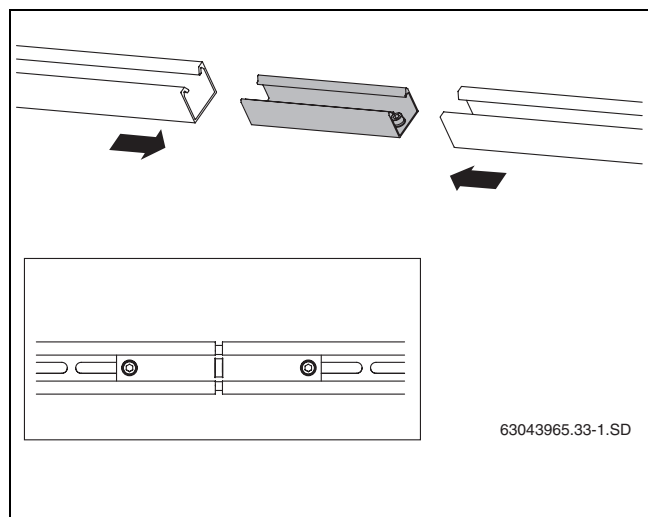

Fig. 29 Connecting profile rails
- ▶ Push rail connector (Fig. 29, [1]) as far as it will go into both profile rails (Fig. 29, [2]).
- ▶ To lock, tighten both fitted M10 threaded studs (Fig. 29, [3]) in the rail connector using a size 5 Allen key.